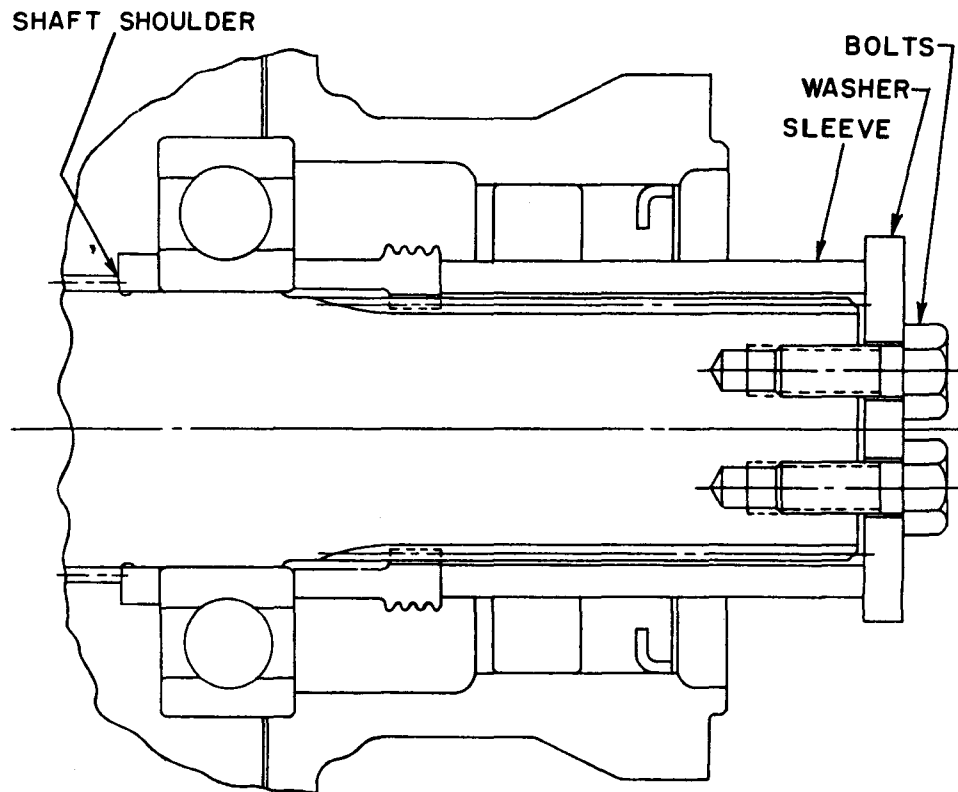

Fig. IV-3. Special tool for seating output shaft parts before installing flange
(3) Sleeve for positioning parts prior to assembly of input or output flanges (fig. IV-3).
(1) Make sure that the output shaft is in its most outward position and the bearing between the shaft shoulder and the flange is tight against the shaft shoulder. A typical method is to insert a sleeve over the shaft and pull tight with bolts and washers as illustrated in fig. IV-3.
(2) Coat the shaft splines and the lip of the oil seal with a thin layer of bearing grease.
(3) Heat the flange to a minimum of 250° F prior to assembly. Two methods for heating are suggested as follows: